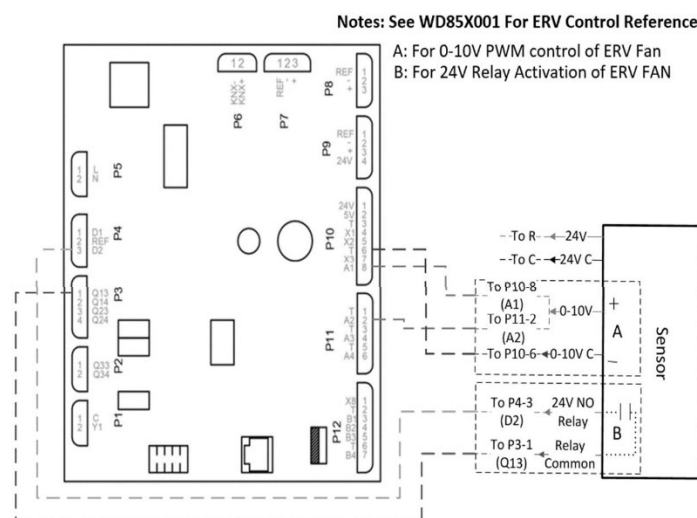

Figure 27 Humidity/CO2 Sensor
3. For sensors with 0-10V PWM fan control use connection A shown in **Figure 27 – Humidity/CO2 Sensor**. For 24V relay activation of fans use the B connections. Insert sensor wires into specified terminals. DO NOT REMOVE ANY EXISTING WIRES FROM ERV CONTROLLER